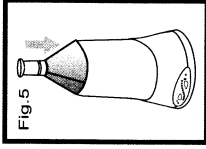

Fig.5
For faster cooling or warming effect, the insulation sleeve (14) provided may be used to cover the top part of the bottle. [as Fig.5]